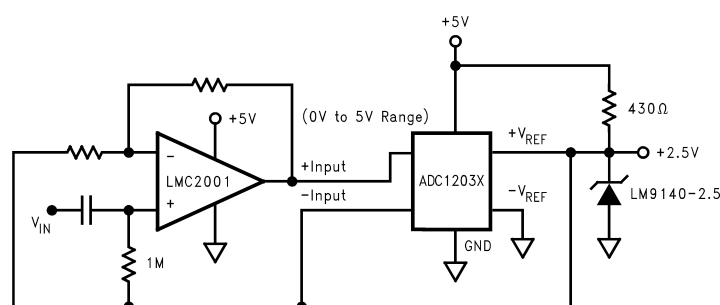
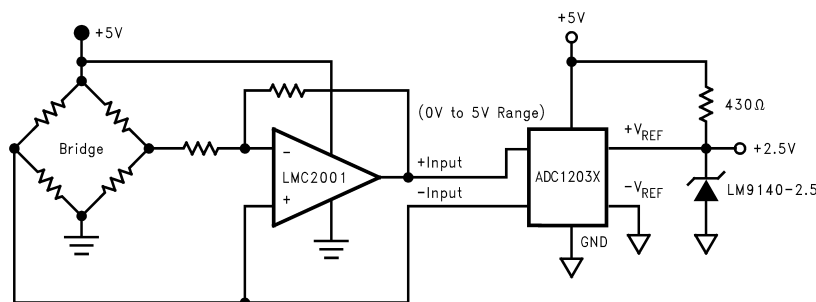

Figure 10.
Figure 11.
The LMC2001 is a great choice for an amplifier stage immediately before the input of an A/D converter (AC or DC coupled) see Figure 10 and Figure 11 because of the following important characteristics:
e) Rail-to-Rail output swing maximized the ADC dynamic range in 5V single supply converter applications. Below are some typical block diagrams showing the LMC2001 used as an ADC amplifier (Figure 10 and Figure 11).